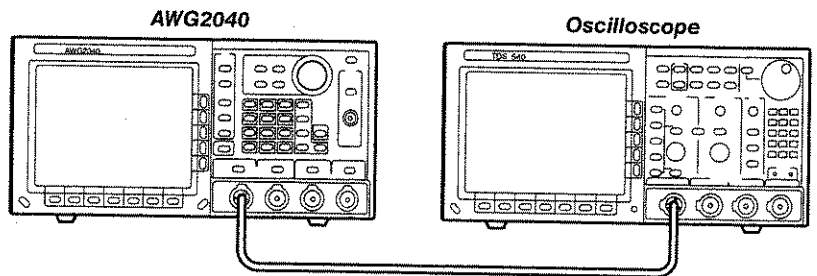

Figure E-14: Pulse Response Initial Test Hookup
- a. *Hook up the oscilloscope:* Connect the AWG2040 CH1 output connector through the coaxial cable to the CH1 vertical input connector on the oscilloscope (see Figure E-14).